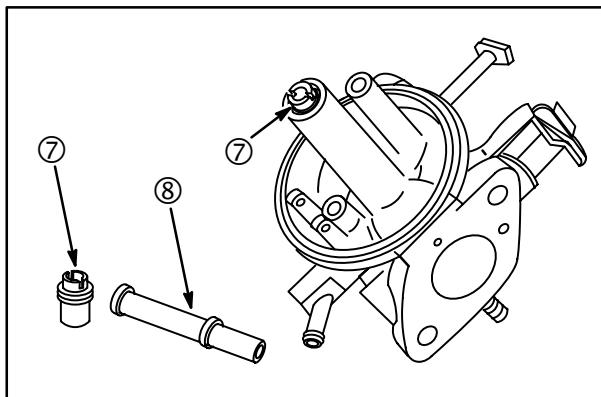

Fig. 25
4. Remove fixed main jet (7) using Screwdriver #19062, **Fig. 25**.
5. Reach into carburetor throat with flat blade screwdriver and push down on end of emulsion tube (8).